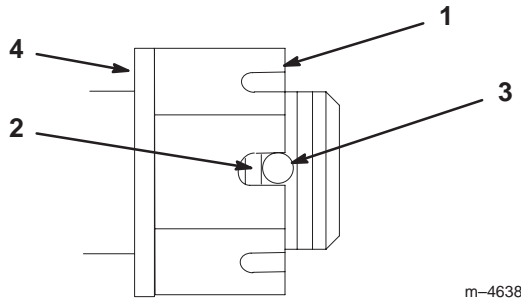

Figure 45
3. Torque slotted nut to 125 ft-lb (170 N•m) (Fig. 45).
4. Check the distance from bottom of slot in nut to inside edge of hole. Two threads or less should be showing (Fig. 45).
5. If more than two threads are showing remove nut and install washer between hub and nut (Fig. 45).
6. Torque the slotted nut to 125 ft-lb (170 N•m) (Fig. 45).
7. Tighten nut until the next set of slots line up with the hole in the shaft (Fig. 45).